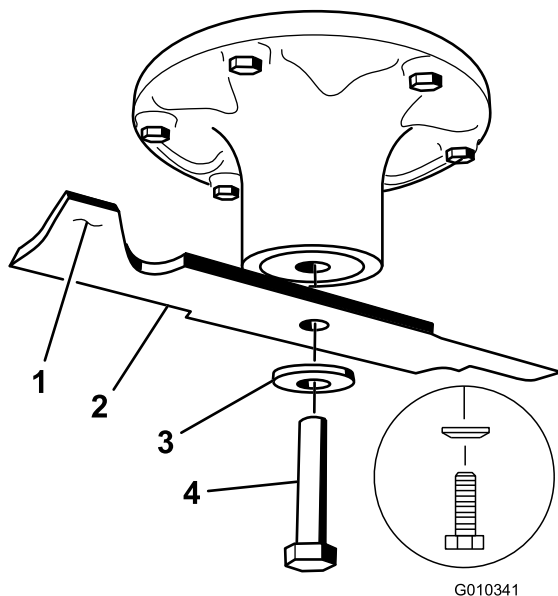
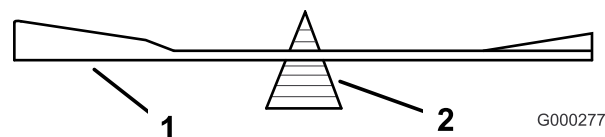

Figure 61
Figure 63
Hold the blade end using a rag or thickly-padded glove. Remove the blade bolt, curved washer, and blade from the spindle shaft (Figure 61).
2. Check the balance of the blade by putting it on a blade balancer (Figure 63). If the blade stays in a horizontal position, the blade is balanced and can be used. If the blade is not balanced, file some metal off the end of the sail area only (Figure 61). Repeat this procedure until the blade is balanced.
1. Install the blade onto the spindle shaft (Figure 61).
2. Install the spring disk and blade bolt. The spring disk cone must be installed toward the bolt head (Figure 61). Torque the blade bolt to 100-110 ft-lb (135-150 N-m).